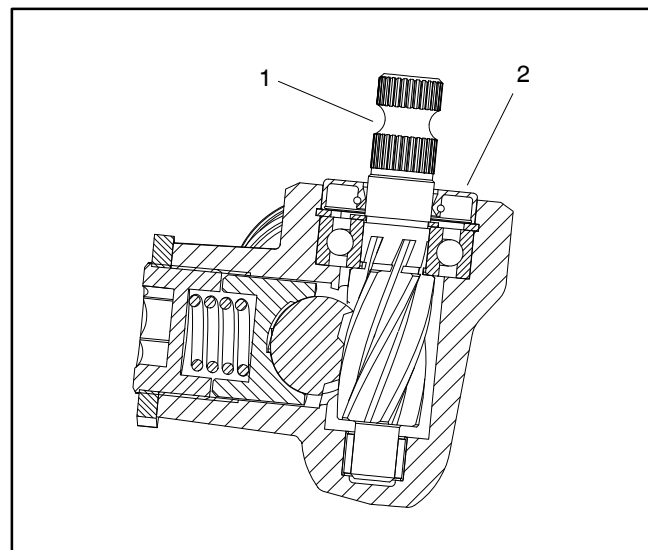

Figure 16
6. If necessary, remove input shaft seal from steering rack input shaft (Fig. 16):
- A. Mark and drill two (2) holes in the outer face of the seal.
- B. Thread two (2) self-tapping screws into the drilled holes in the face of the seal.